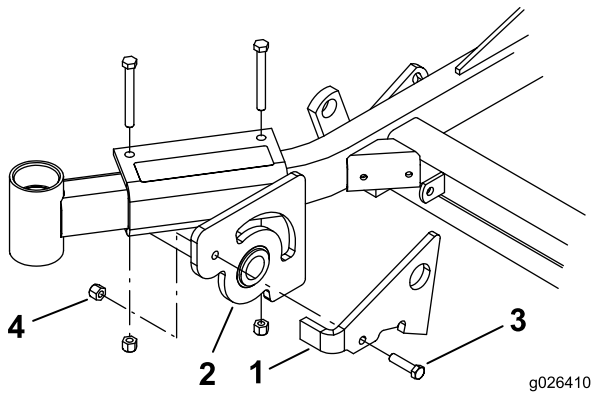

Figure 1
1. Install the bracket latch to the hub with a bolt (3/8 x 1-1/2 inches) and lock nut (3/8 inch) (Figure 1).
2. Tighten the lock nut and bolt. Then, unscrew it one full turn or until the latch will freely rotate (Figure 1).